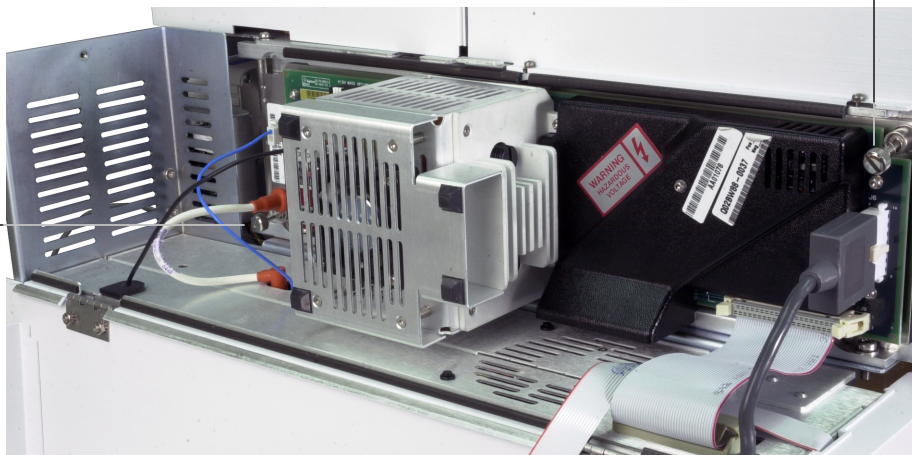

Figure 25 Side plate thumbscrews
- 8 Finger-tighten the side plate thumbscrews (Figure 25).